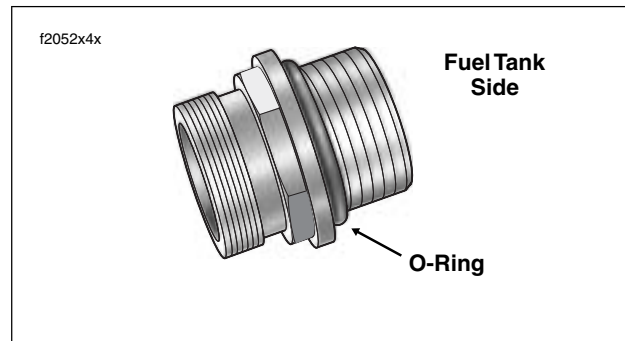

Figure 4-16. Fuel Tank Adapter
2. Slide a 7/8 inch socket over hex on adapter, and looking down at top of fuel tank, rotate in a clockwise direction to remove. See Figure 4-16.